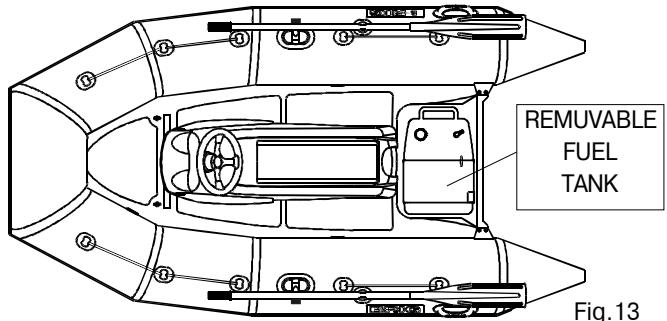

Fig.13
- for Sport version - on the rear part of the boat (see. Fig.13) or inside the Sport console.